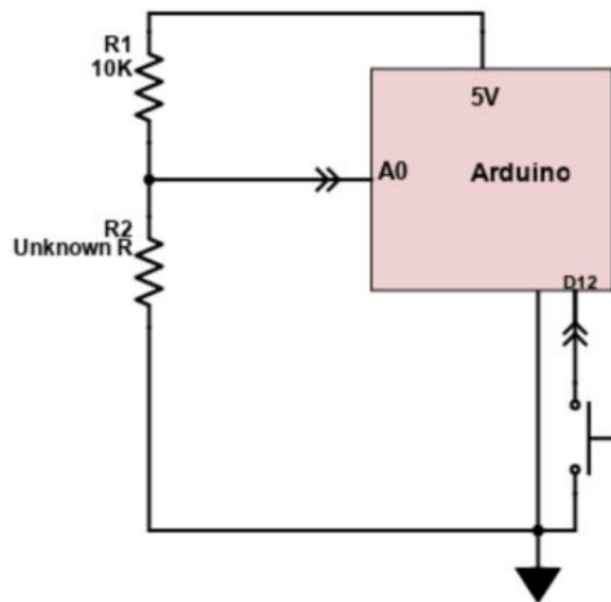

Figure 1: The ohmmeter circuit.
- b. The circuit shown in Figure 1 was built.